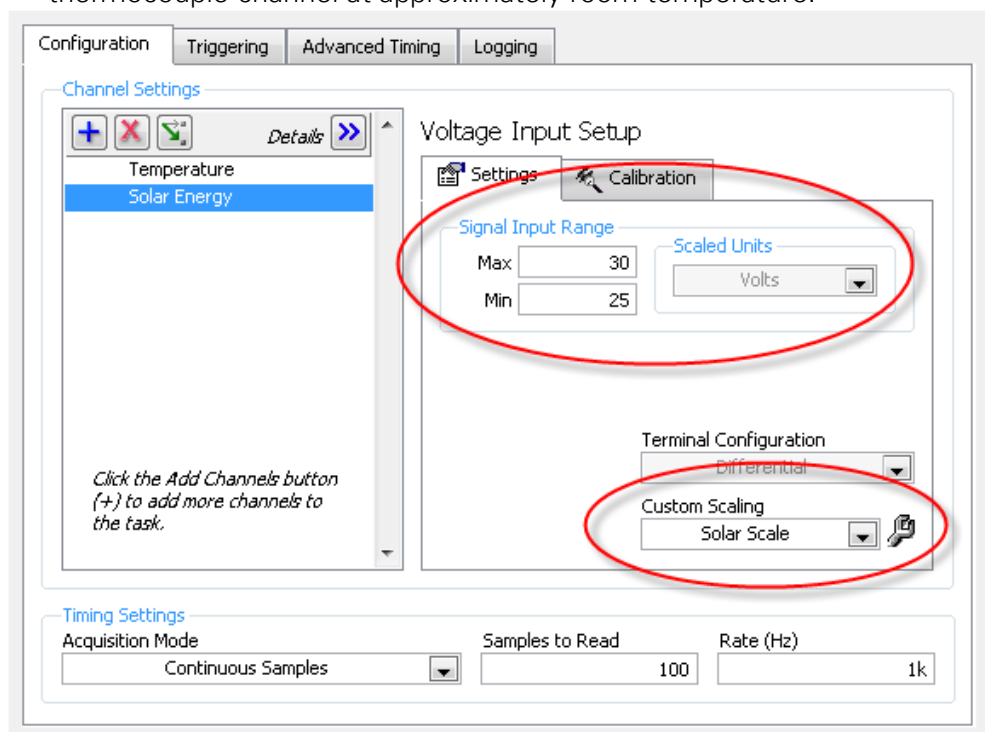

Figure 12. The Solar Energy channel uses its own scaling configuration but shares timing and triggering settings with all other channels in the same task.
- f. Save the Measure Temperature and Light task by selecting **Save**. The Solar Energy channel should be configured as shown in Figure 12.